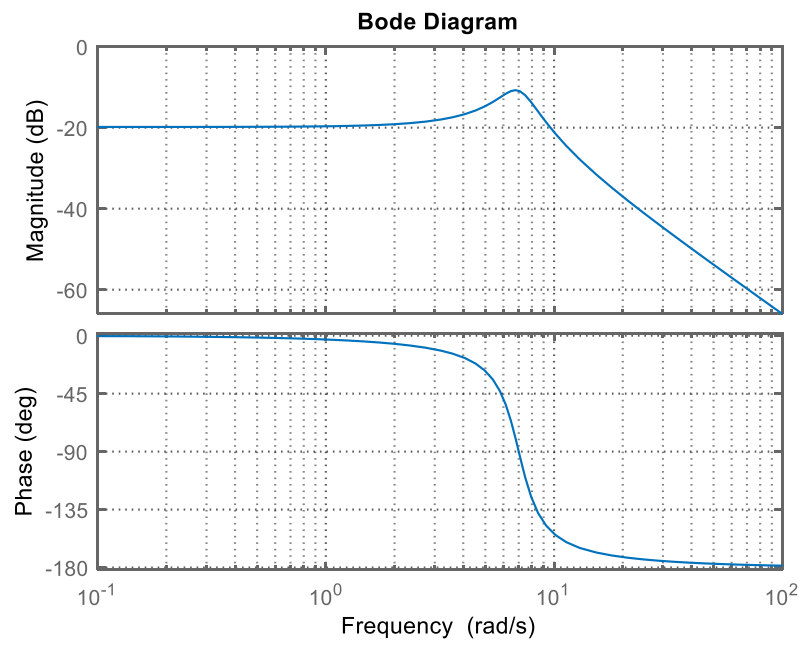

Figure 1
- Q5 Figure 1 shows the Bode frequency response plot of the plant transfer function for the lower leg response with the physical parameters given in Q3.